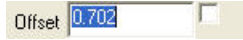

Figure 9-62. Offset Input Bar
- Click on the arc position or enter an offset. A negative offset reduces the arc radius and creates it inside of the selected arc. A positive offset increases the arc radius and creates it outside of the selected area (Figure 9-62).